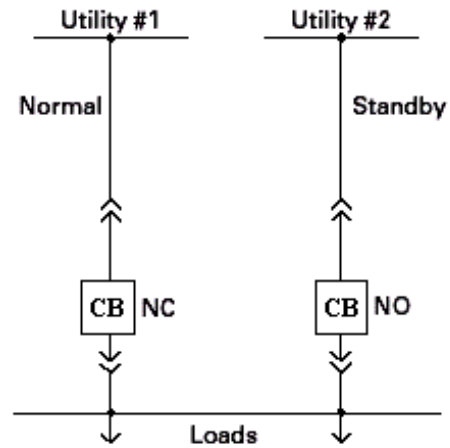
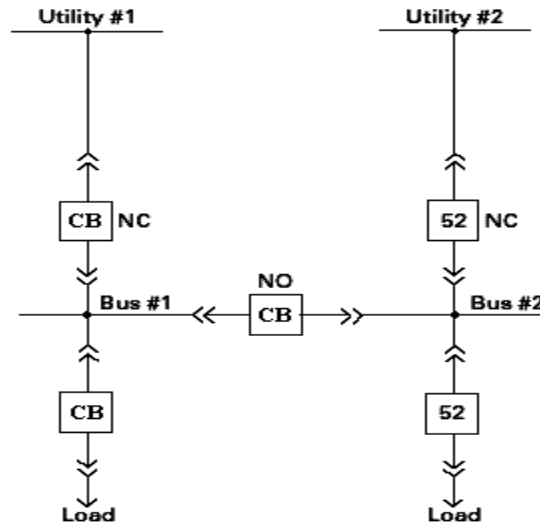

Fig.19 Single Bus with Two Sources.
Fig. 20 Two Source Utility with Tie-Breaker.
It is the same as the single bus, except those two utility sources are available. This system is operated normally with the main breaker to one source open. Upon loss of the normal service the transfer to the standby Normally open (NO) breaker can be automatic or manual. Automatic transfer is preferred for rapid service restoration especially in unattended stations. This is shown in Fig. 19.
This scheme is basically the scheme (2) shown in Fig. 19, but with addition of the tie-breaker. The outage to the system load for a utility outage is limited to half of the system. Again the closing of the tie-breaker can be manual or automatic. The statements made for the retransfer of scheme B apply to this scheme also. This system is more expensive than (2). The system is not limited to two buses only. Another advantage is that if the paralleling of the buses is momentary, no increase in the interrupting capacity of the circuit breakers is required as other buses are added provided only two buses are paralleled momentarily for switching. The third tie breaker shown in Fig. 20 allows any bus to be fed from any utility source.
Caution for Figs 19, 20 and 21: If continuous paralleling of sources is planned, reverse current, reverse power and other appropriate relaying protection should be added. When both sources are paralleled, the fault current available on the load side of the main device is the sum of the available fault current from each source plus the motor fault contribution. It is required that bus bracing, feeder breakers and all load side equipment is rated for the increased available fault current.